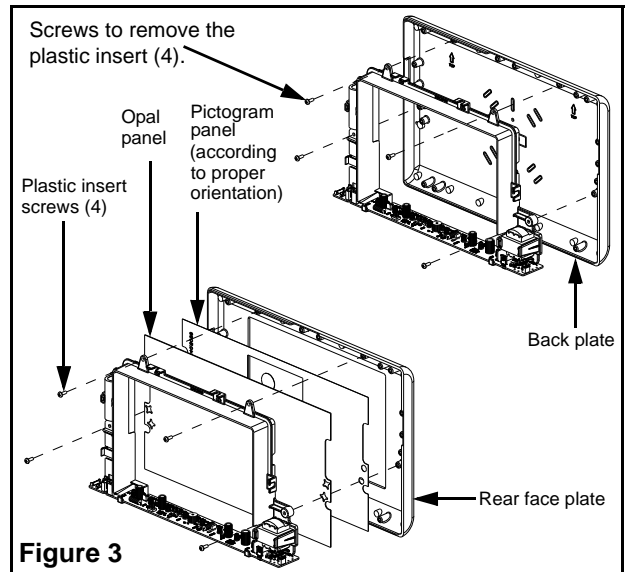

Figure 3
5. For **double face models**, unscrew the plastic insert, with all the electrical components and remove from back plate. Install the pictogram panel(10) on the rear face plate according to the instructions in step 6. Re-install the plastic insert onto the other face plate provided (see figure 3).